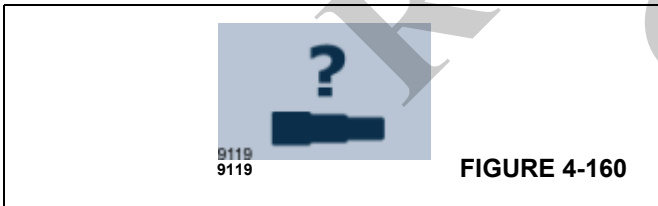

FIGURE 4-160
If the actual boom configuration (or “actual tele picture”) is no longer considered valid by the control system, the question mark icon appears in the Semi-Auto screen as shown below in (Figure 4-160), then the following procedure can be used to reset (or “teach”) the telescoping configuration:
- Enter the request reset telescoping screen. (Figure 4-160) shows the icon for this screen.